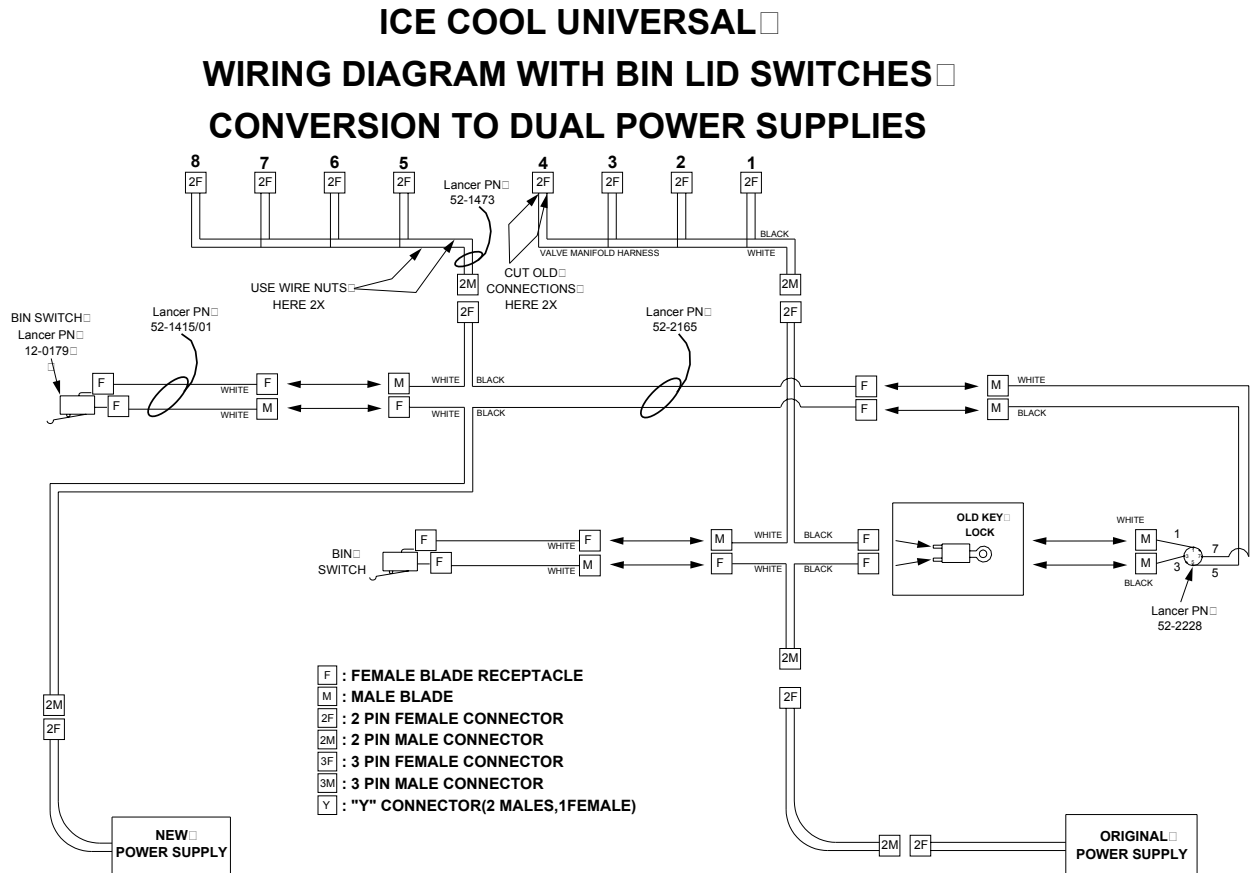

Figure 1
The following procedure is used to add a second power supply to Lancer drop in dispensers for the purpose of separating the dispensing valve power circuit into two (2) independent circuits, each powered by its own 75 VA power supply. Refer to the wiring diagram (Figure 1) for details.